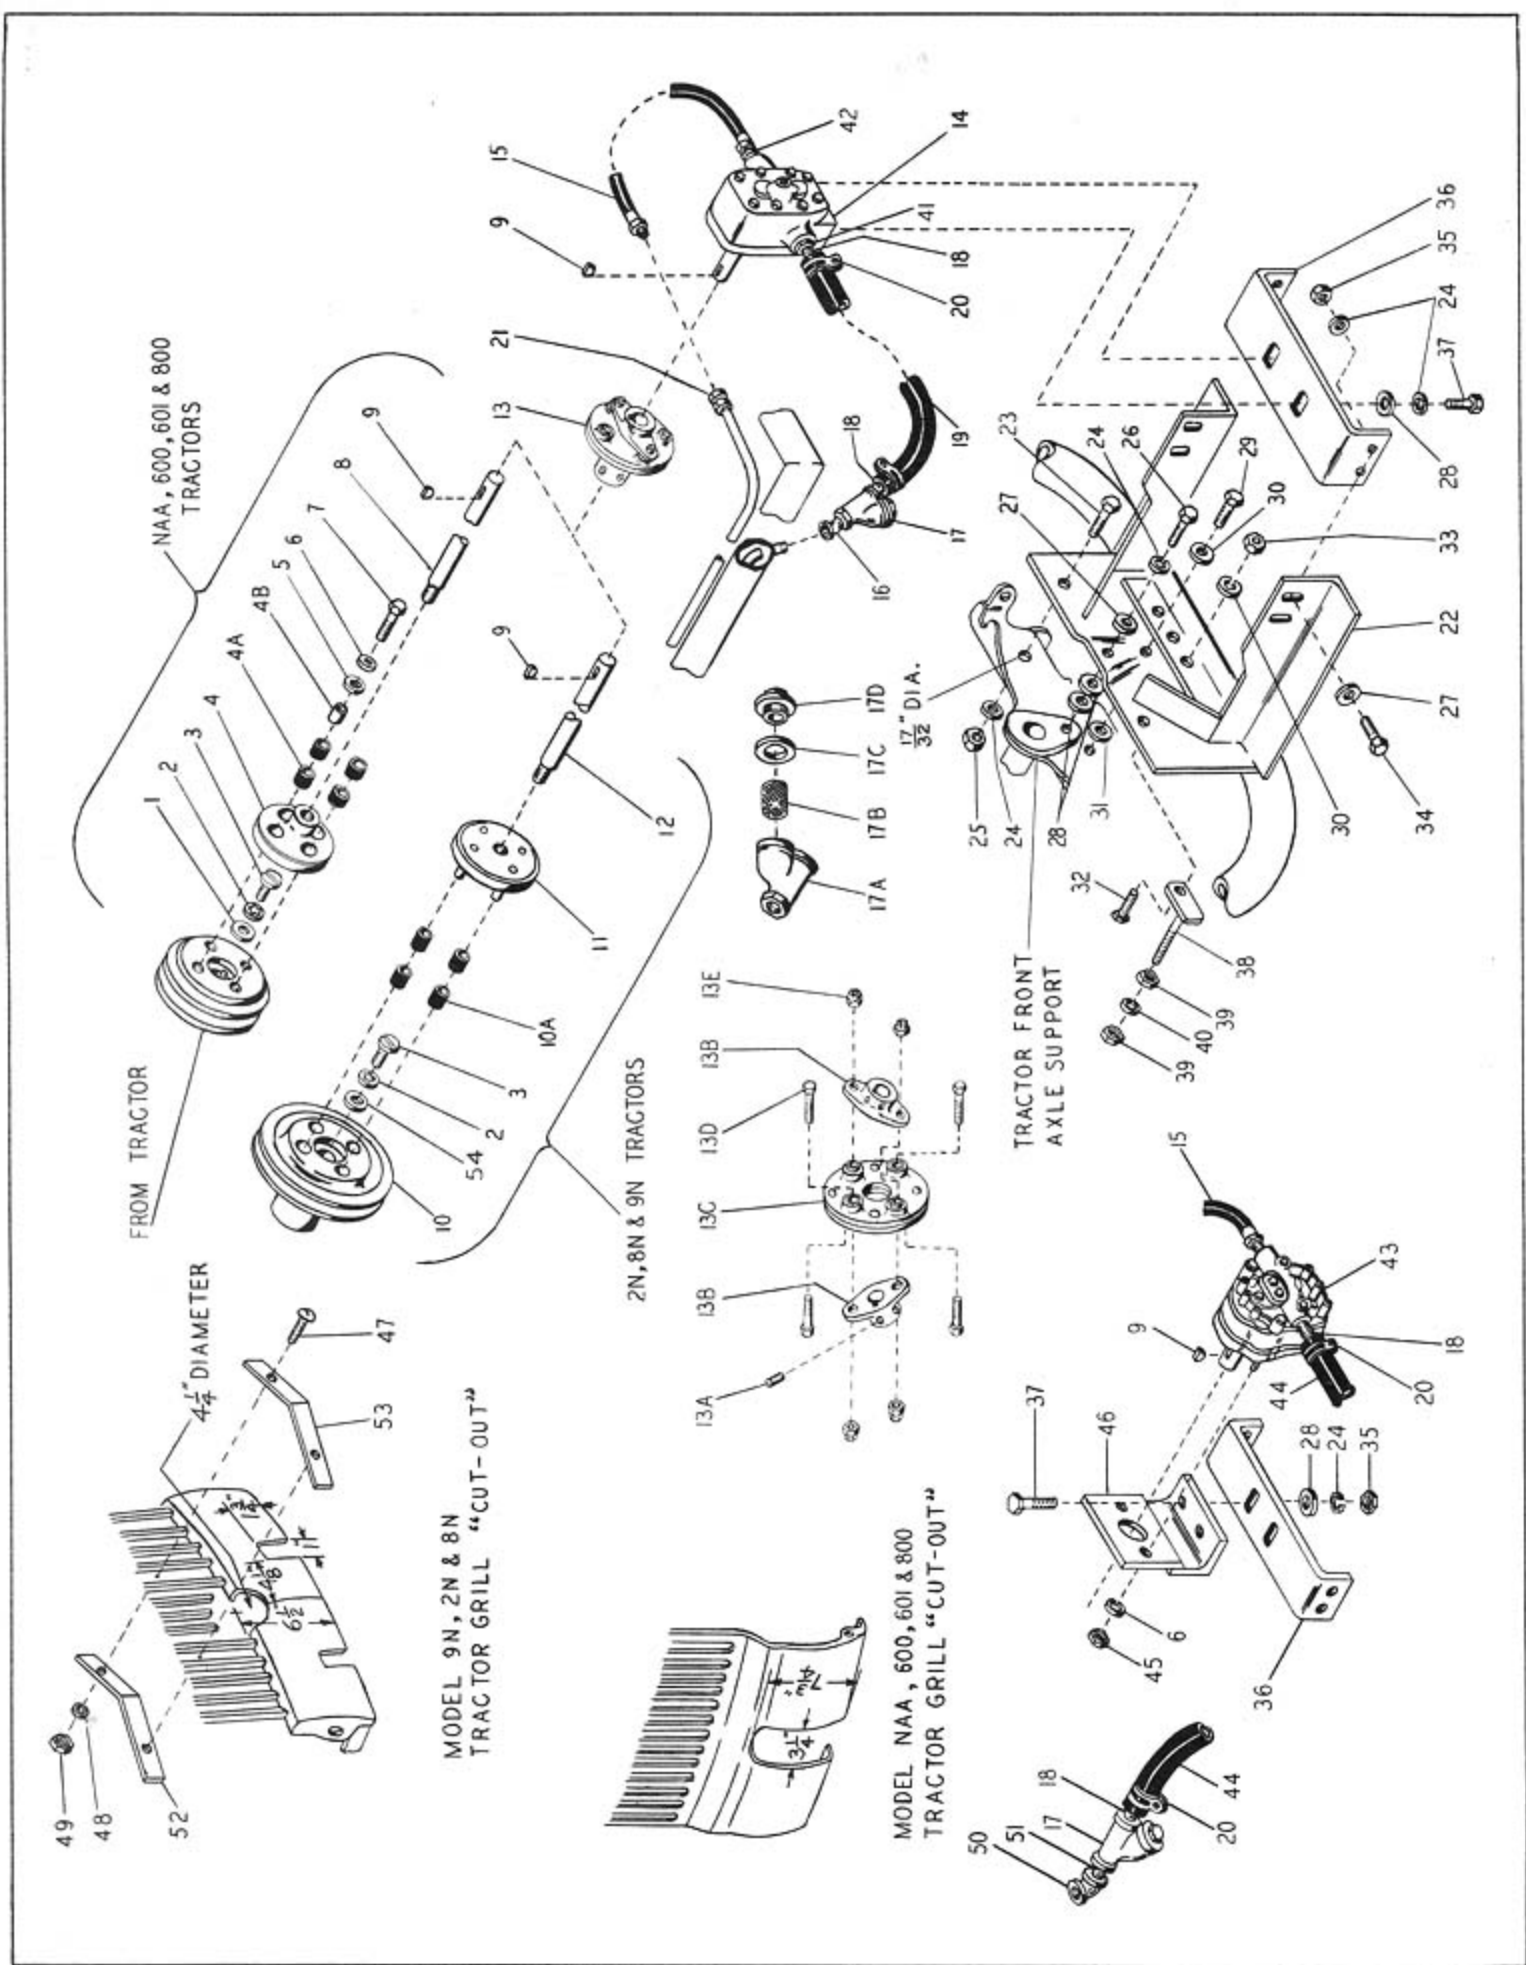

Figure 1, Pump Mounting and Drive Assembly
2. Clamp the pump (Item 14 or 43, Fig.1) carefully in a vise between two wooden blocks.
5. Position the 14 G.P.M. pump (14) on the pump mounting bracket (36) and connect the pump shaft to the coupling flange using a #9 Woodruff Key. Tighten the set screw. (See Figure 1).
7. When mounting the 17 G.P.M. pump an additional bracket is needed. Mount the pump mounting bracket (46) to the pump mounting bracket (36) with two 1/2"-13 x 1-1/4" cap screws, lockwashers and special washers. (See Figure 1).
34. Connect 3/4" x 45° elbow, 3/4" close nipple, strainer assembly and 3/4" x 1-3/4" T.O.E. nipple to reservoir outlet nipple at right front end of main frame. Secure the T.O.E. nipple to strainer outlet beforehand. (See Figure 1).
PARTS LIST, FIGURE 1, PUMP MOUNTING AND DRIVE ASSEMBLY CONNECTIONS